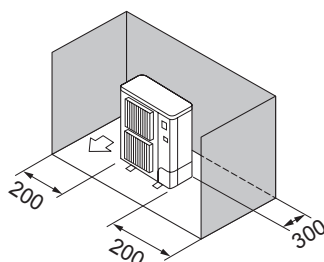

Fig. 2-9
- (3) Obstacles at rear and sides only (Fig. 2-9)